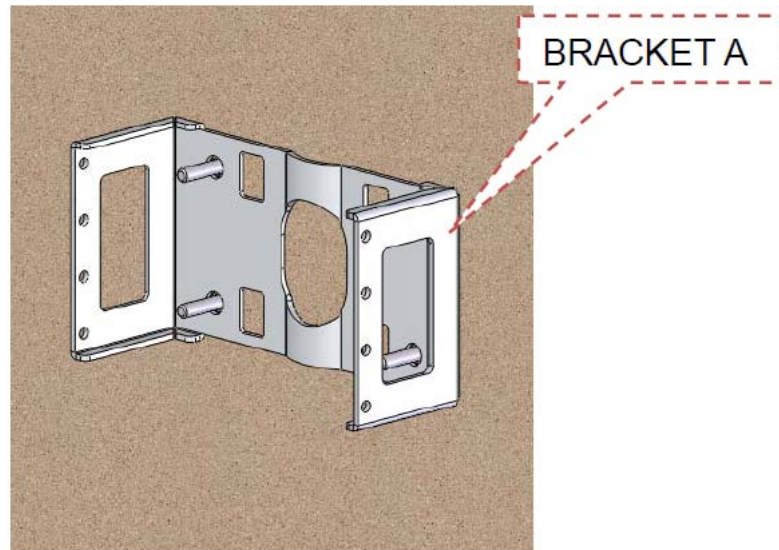

Figure 27
Step 3 Align the holes on the bracket A with the expansion blot, as shown in Figure 27